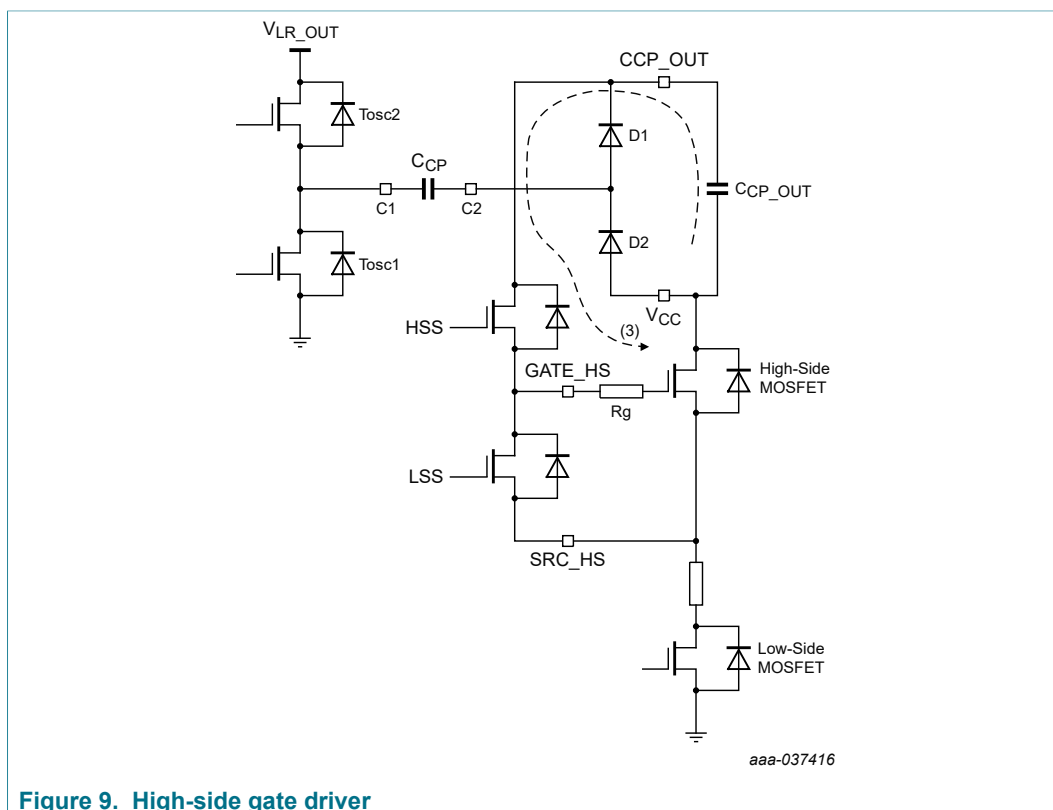

Figure 9. High-side gate driver
Figure 9 represents a simplified circuitry of the high-side gate driver. Transistors Tosc1 and Tosc2 are the oscillator-switching MOSFETs. When Tosc1 is on, the oscillator is at low level. When Tosc2 is on, the oscillator is at high level. The capacitor C_{CP_OUT} provides peak current to the high-side MOSFET through HSS during turn-on (3).